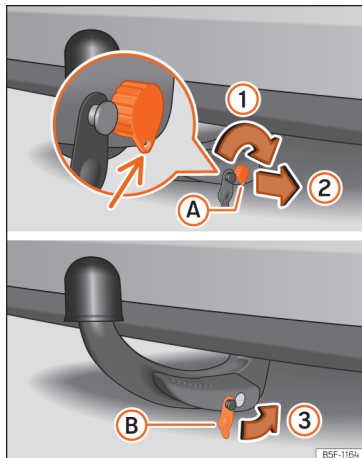

Fig. 267 Putting the tow hook in place. Step 2.
- Turn the key to the right just half a turn, until the hole in the key faces downwards » Fig. 267 ①.
- Remove the key ②.
- Place the cover ② on the lock ③ » Fig. 267 » ⚠.